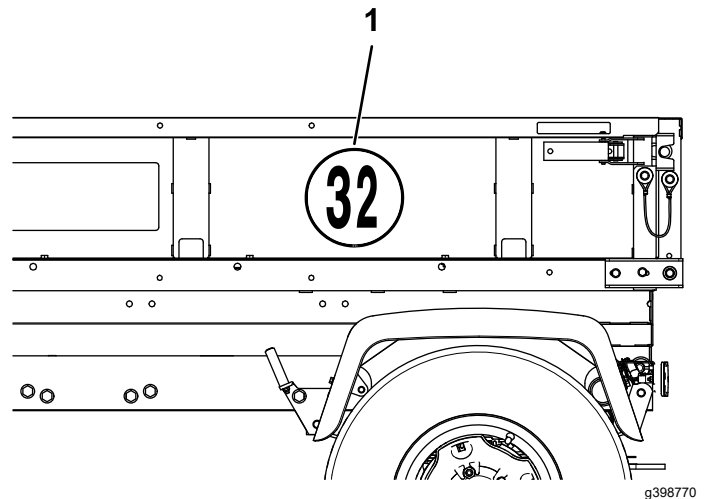

Figure 19
1. On the left side of the cargo bed, attach the speed decal to the area in between the second and third channels as shown in Figure 19.